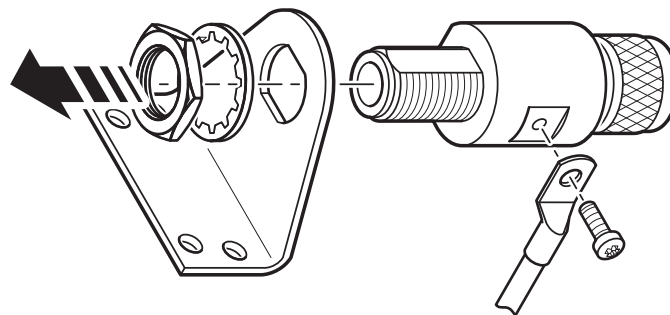

Figure 9.7: Assembly of the MBG S-PRO surge protector
2. Mount the supplied mounting bracket as shown in  Fig. 9.7, then fit the MBG S-PRO to the bracket.